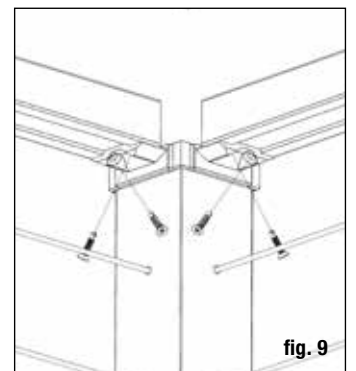

fig. 9
**Step 10** Position the rail between the posts. Check for level end-to-end and vertically. Attach brackets to the post at one end. Predrill rail using a 7/64" drill bit. Repeat for the other end. *Tip: Use a driver extension bit to avoid marring the rail with the drill chuck. Install all rails prior to installing cable.* (fig. 9)